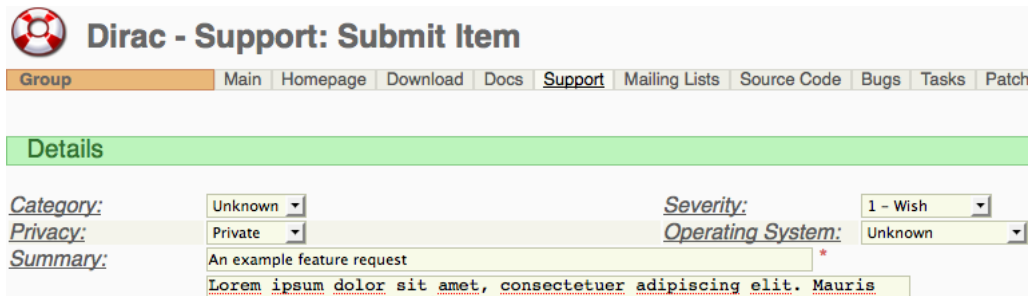

Figure 7: Savannah support submit feature request.
- Ensure that the submission webform contains all relevant information (Fig. 7).